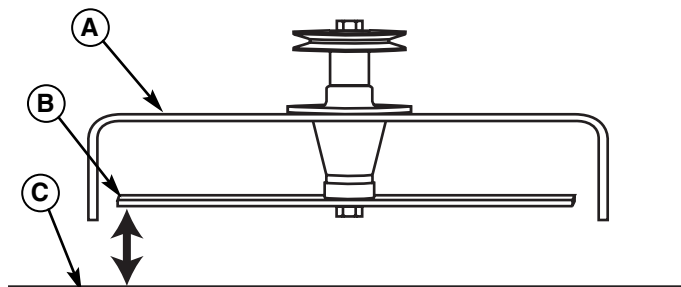

Figure 48. Measure Blade Tips to Ground
5. Measure the distance between the tips of the outside blades and the ground (Figures 48 & 49). If there is more than 1/8" (3mm) difference between the measurements on each side, proceed to step 6. If the difference is 1/8" (3mm) or less, proceed to Front To Back Leveling.